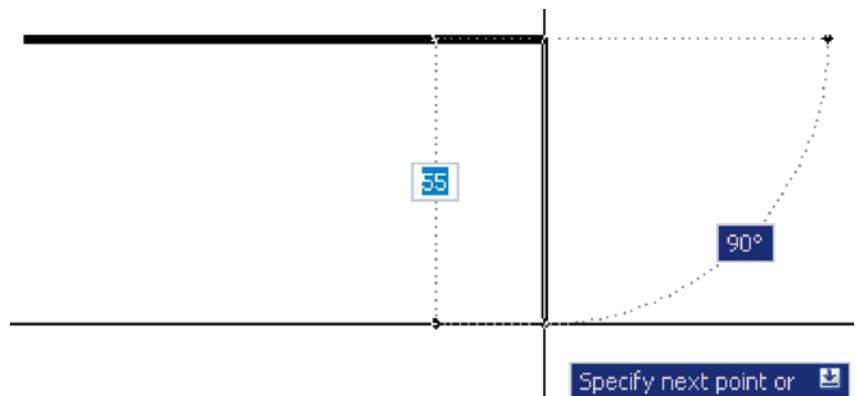

Fig. 3.30 Dynamic Input – first example – Polyline – the vertical height
6. *Drag* the cursor down until the vertical distance shows and *left-click* (Fig. 3.30).